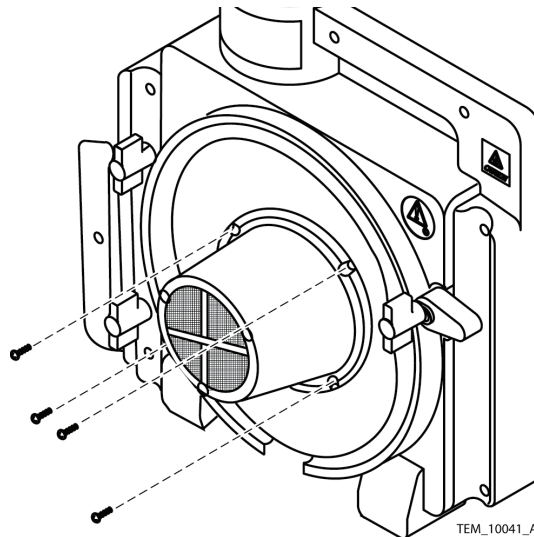

Figure 75. Blower Screws
35. Install the blower assembly mounting screws into the rear cover assembly. Tighten the screws to 4 to 6 in/lbs (10 to 15 cm/kg). See Figure 75.